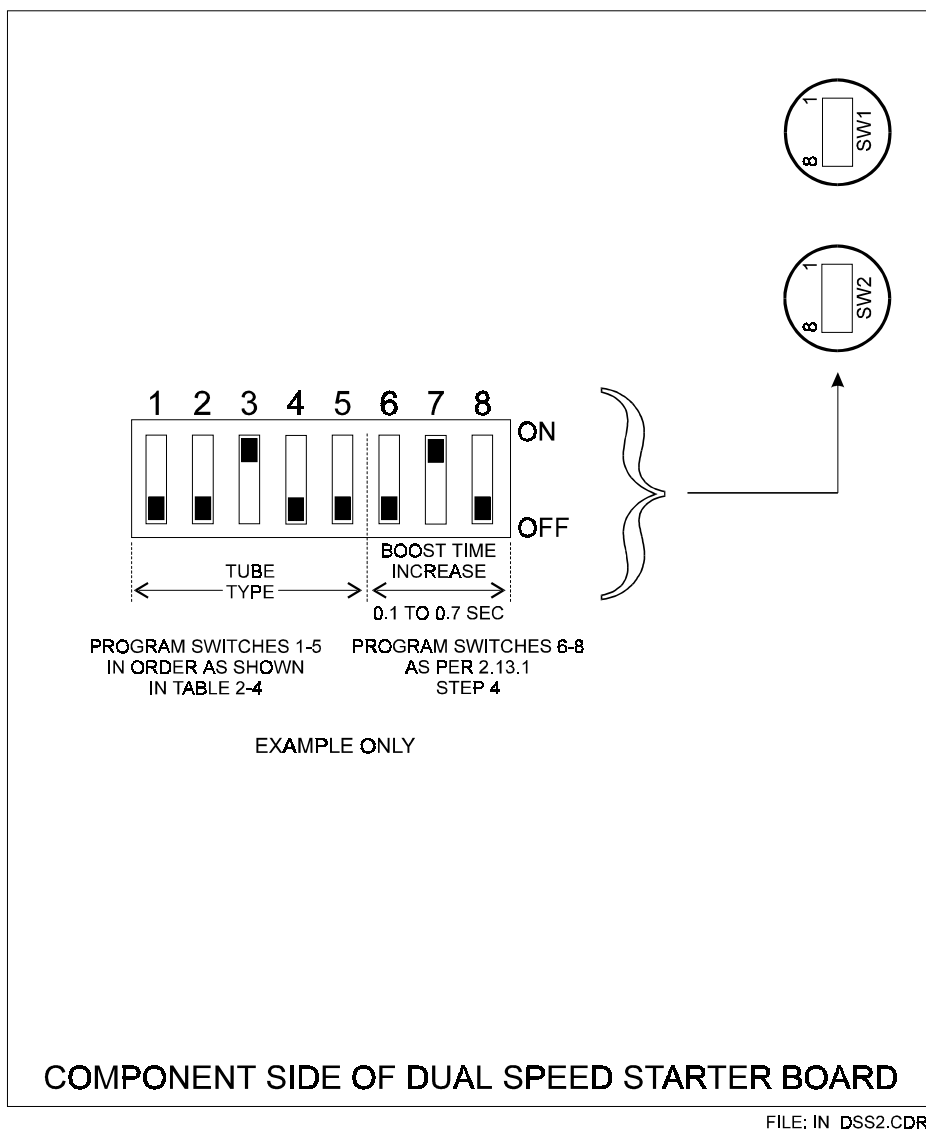

Figure 2-10: DIP switches on dual speed starter.
4. Refer to figure 2-10. Set the DIP switch SW1 (for tube 1) with the binary code for the selected tube. The binary code shown in the table programs the tube type (housing and insert), for example housing type Varian Diamond with standard "R" stator and inserts per table 2-3 requires SW1-1 to be set OFF, SW1-2 OFF, SW1-3 ON, SW1-4 OFF and SW1-5 OFF. This programs the voltages, brake times, and boost times in table 2-3.
5. The example DIP switch setting shown in figure 2-10 is for the example in step 4 with an incremental increase in boost time of 200 ms.
NOTE THAT THE EXAMPLE DIP SWITCH SHOWN IN FIGURE 2-10 IS REPRESENTATIVE OF ONE STYLE OF SWITCH ONLY. DEPENDING ON MANUFACTURER, YOUR DIP SWITCH STYLE MAY VARY. PLEASE NOTE THE ON/OFF POSITIONS CAREFULLY FOR YOUR UNIT.